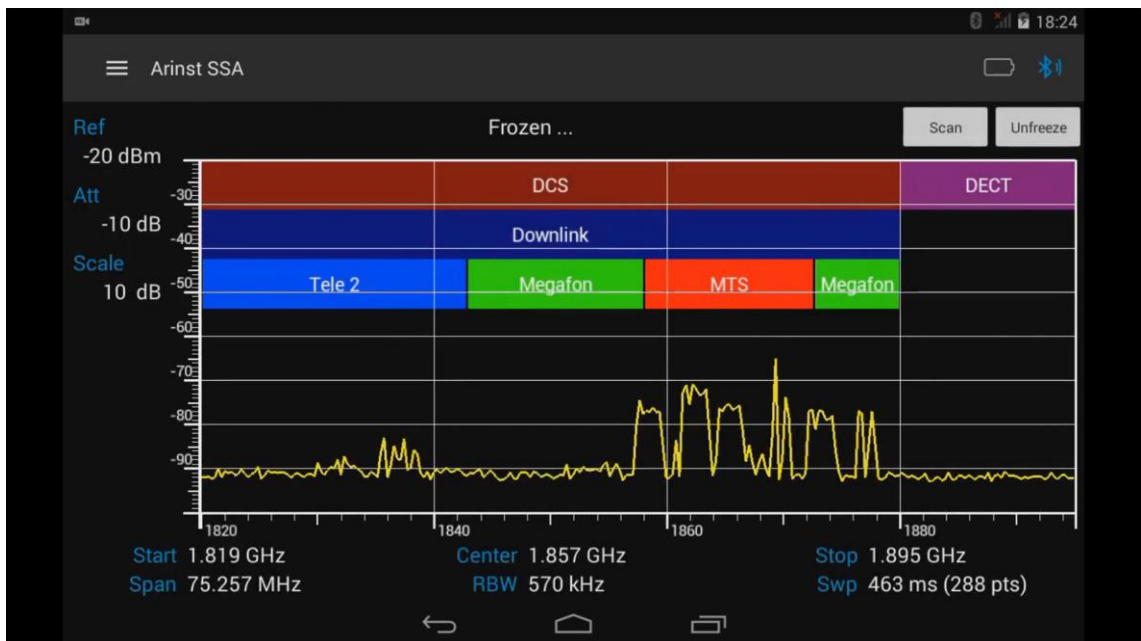

Figure 54 – Spectrum scanning suspended
8.9.3. To stop cyclic spectrum scanning, press the **Freeze scan** button. Scanning of the signal spectrum will be paused (frozen), figure 54. Pressing the **Scan** button updates the spectrum graph, the **Unfreeze** button starts the paused scan.